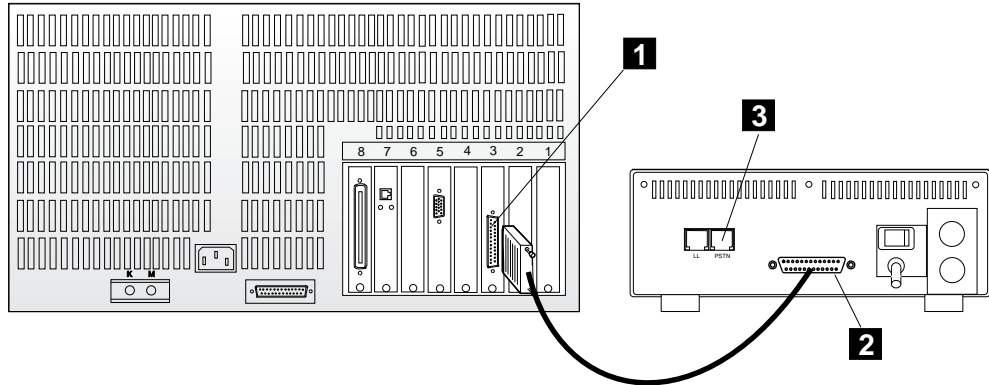

Figure 1-109. Connecting the Service Processor (3172) to the 7857
- **3172**, refer to Figure 1-109